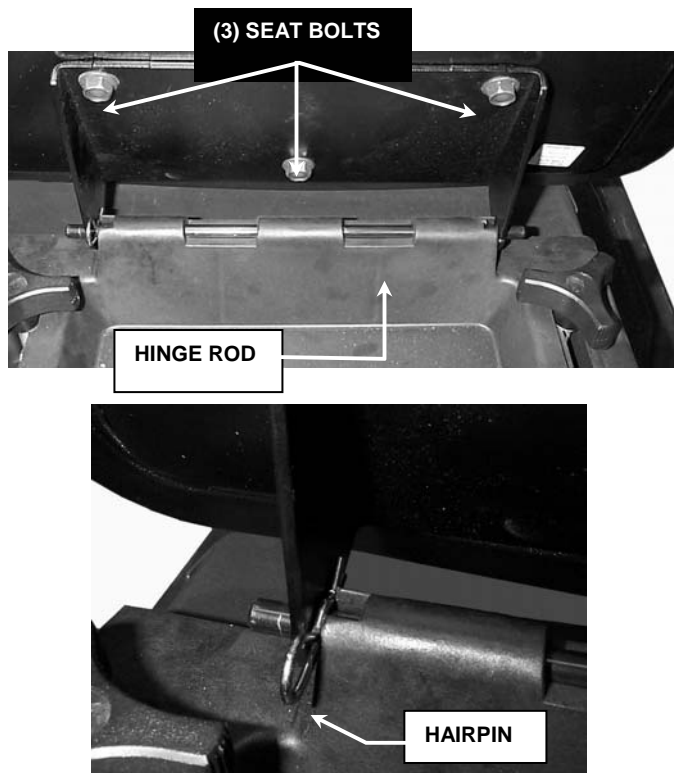

FIGURE 1.7
1. Check seat bolts to insure hinge plate is tightened securely to the bottom of the seat. See Figure 1.7.
3. Insert hair pin fully into hinge rod. Hairpin must be between hinge plate and seat/pedestal to retain rod properly. See Figure 1.7.